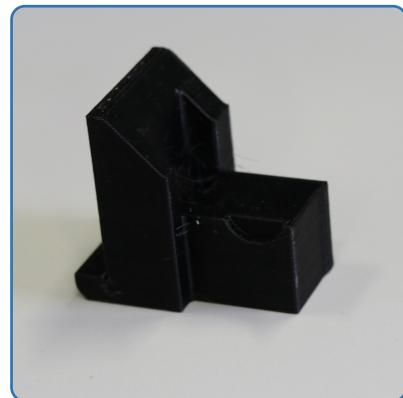

Figure 18: Remove the *Alignment Tool*
1. Carefully remove the Alignment Tool (Figure 18)